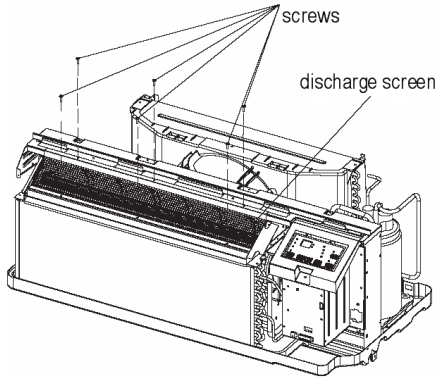

Fig. 7 — Discharge Screen Screw Locations
1. Remove and discard discharge screen from unit by removing attachment screws See Fig. 7.